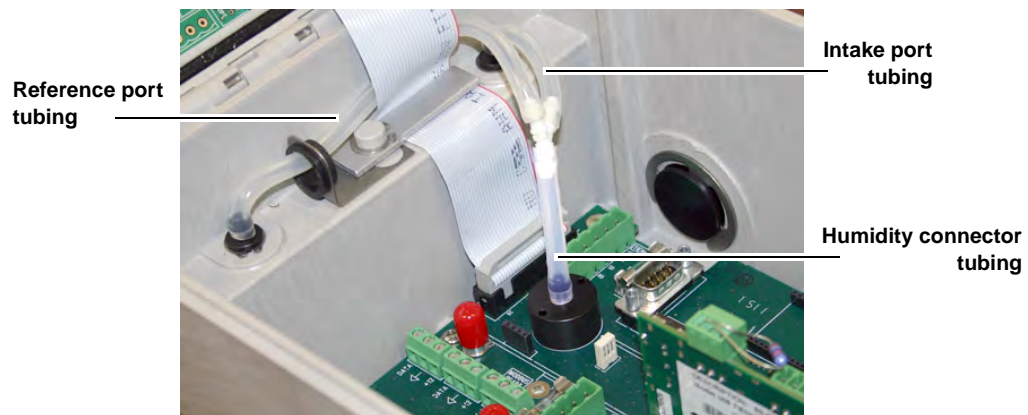

Figure 2-4 Tubing configuration for optimal drying power
4. Connect the 'Y' connector to the humidity connector (Figure 2-4).